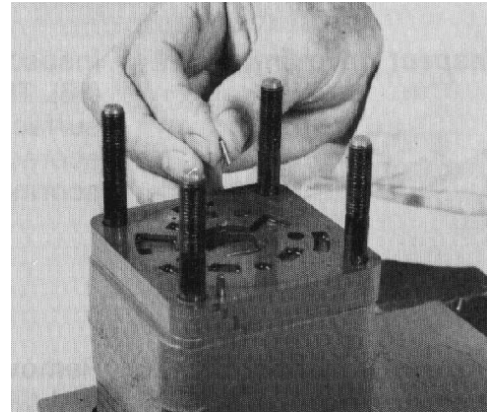

Figure 38
18. Remove the two alignment pins that align the port manifold, valve ring and isolation manifold (Fig. 38).